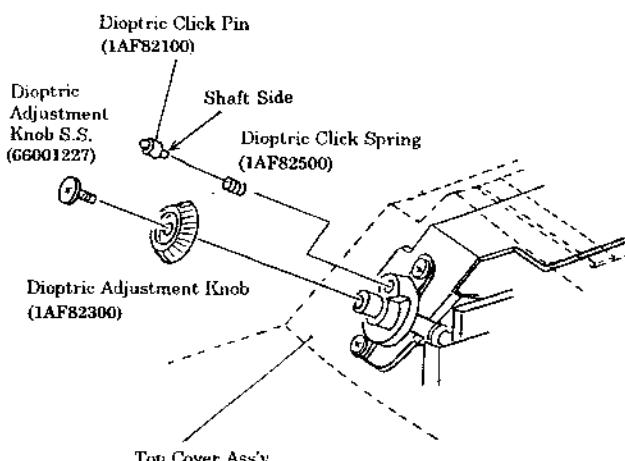

Fig.2
- To install the Dioptric Click Pin, insert the shaft side of the Dioptric Click Pin into the Dioptric Click Spring. (See Fig. 2)